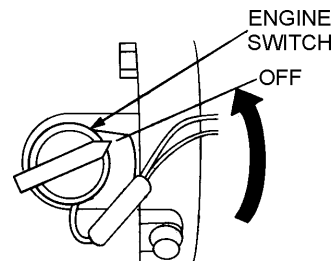

Figure 17. Engine ON/OFF Switch (OFF)
- After the engine **cools**, turn the engine ON/OFF switch to the "OFF" position (Figure 17).